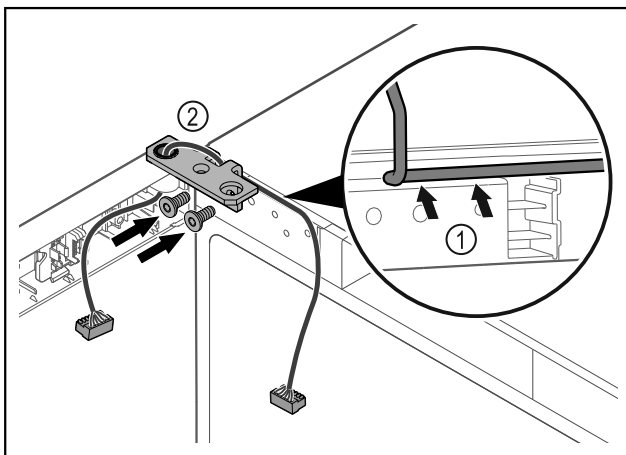

Fig. 55
- ▶ Feed the cable through the recess in the hinge and lay it carefully Fig. 55 (1).
- ▶ Screw on the hinge Fig. 55 (2).